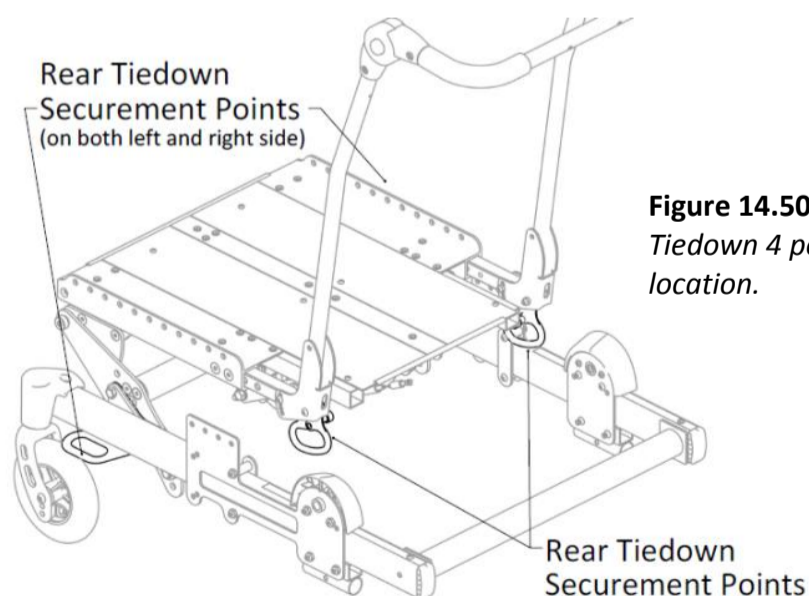

Figure 14.50: Bentley Transit Tiedown 4 point securement location.
4. The Bentley Transit Tiedown System is designed for a four-point (two front, two rear) strap-type tiedown system (Figure 14.50). Attach the WTORS in accordance with the manufacturer's instructions and RESNA WC-4:2012, Section 18 or ISO 10542-1:2012- Part 1.